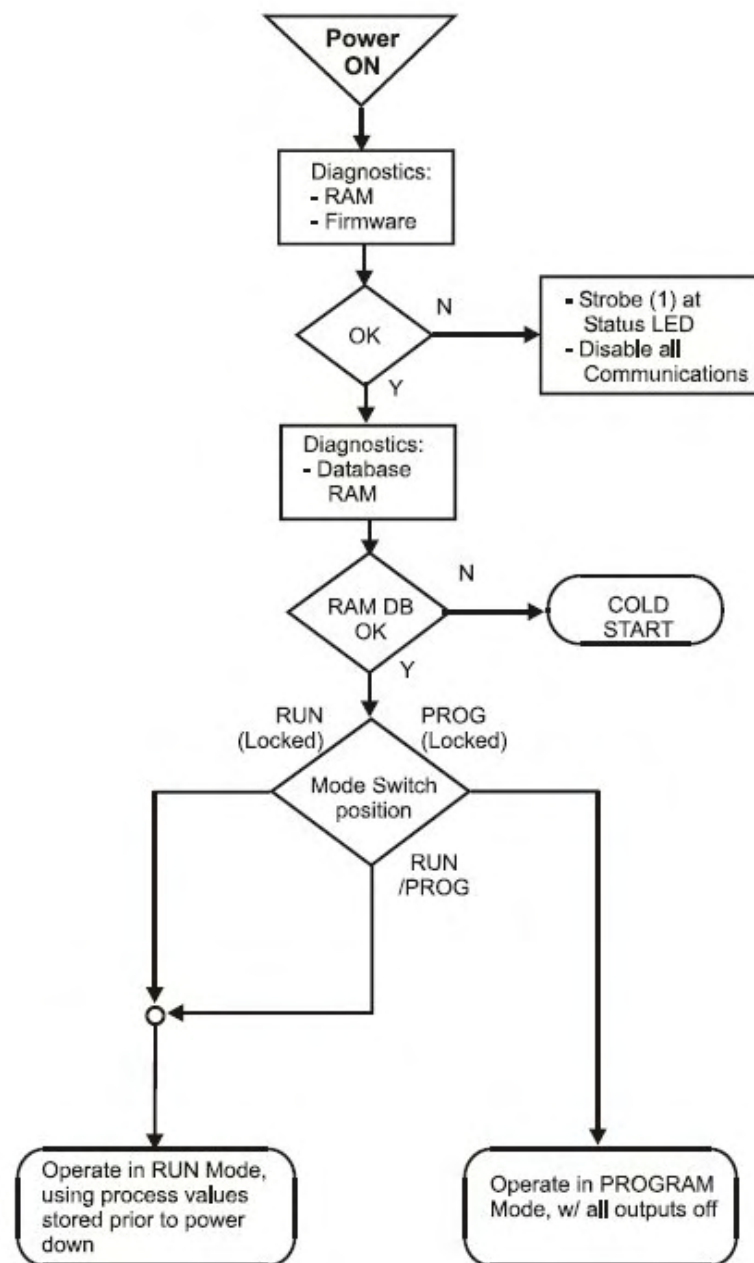

Figure 78 – Warm Start Operation
A Warm Start is a restart of the control strategy using dynamic data that is stored in battery backed RAM to allow control action to resume exactly as it was before the restart. In the Warm Start procedure (flowcharted in the main flow of Figure 78), diagnostic testing proves the integrity of the hardware, software, and configuration database resulting in an automatic Warm Start of process control. Control action is resumed exactly as it was before the outage.
- After a power outage, when diagnostics indicate that the controller hardware and software program are intact, but the content of the RAM database is incorrect. (See Figure 78.)